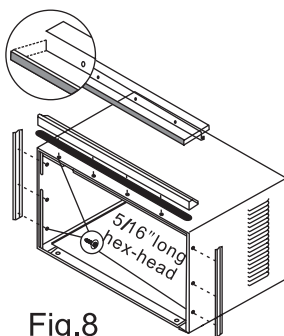

Fig.8
2. Install 5/16" hex head screws to cabinet as shown in Fig.8 (10 screws).